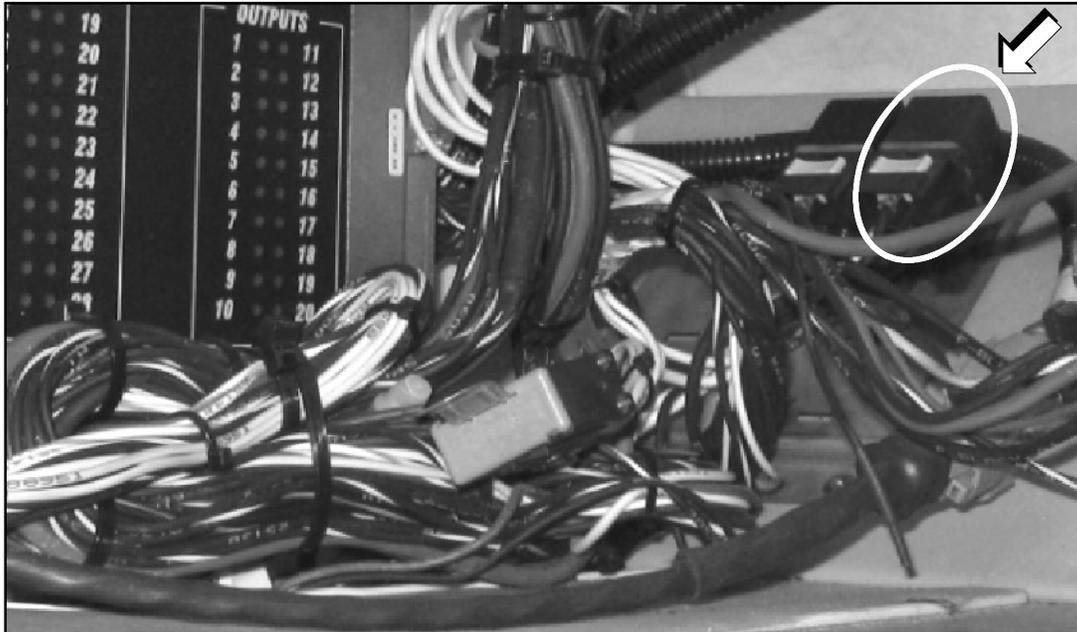

Figure 8. Relay J location in curbside, parcel rack compartment #1.
17. Locate Relay J (refer to Figure 8). Remove circuit 7026B from Relay J cavity 86 and splice with circuit 7026B from the Interior Light Relay Kit, p/n 07-08-4682B, using heatshrink, p/n 07-08-4684.